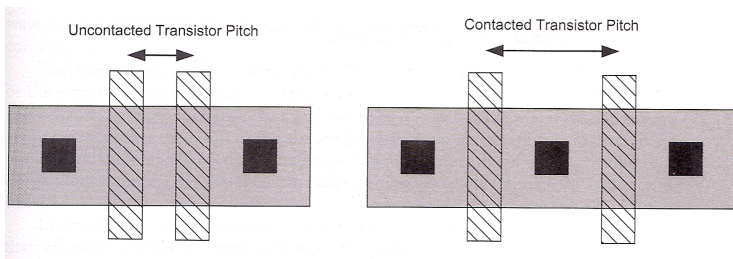

FIG 3.29 Uncontacted and contacted transistor pitch
- 3.7 Using Table 3.2, calculate the minimum uncontacted and contacted transistor pitch as shown in Figure 3.29.